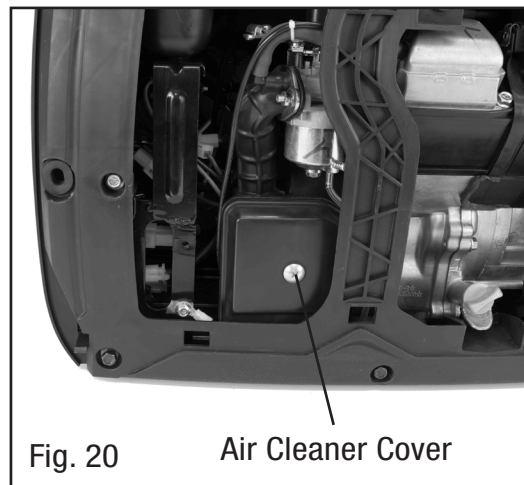

Fig. 20
2. Take the cover off of the air cleaner assembly by unscrewing the middle screw (Fig. 20). Remove the air filter element. Wipe excessive oil and any dirt from inside of the air filter casing.